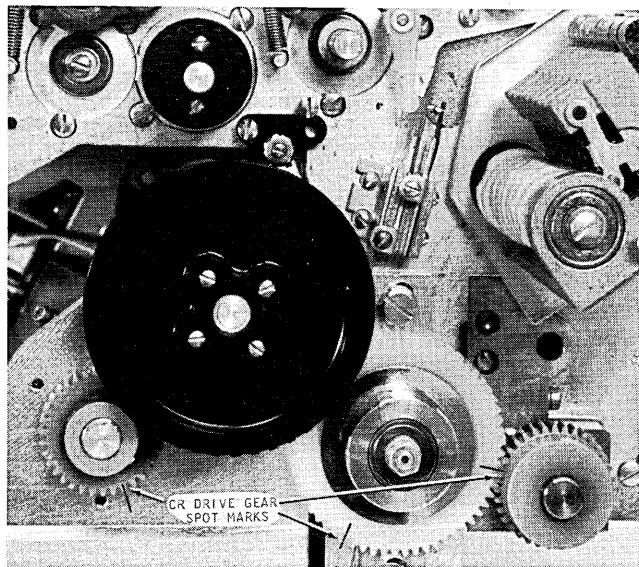

Figure 8. CR Drive Gear Spot Marks
When installing new contact roll assembly, P/N 602252, be certain that the flat portion of hub, P/N 602216 (Figure 8), 88 Parts Catalog, is horizontal and up. If the hub is not horizontal with the flat side up, the brush block assembly will not seat properly.
2. Trip the clutch and turn to  $303^\circ$ ; spot mark the gear on the CR input shaft, the CR idler gear (2 marks) and the CR drive gear to retain the CRCB timing (Figure 8).
3. Spot-mark the secondary gears on the CR input shaft, the idler gear, and the CR drive shaft to keep correct CB timing (Figure 8).